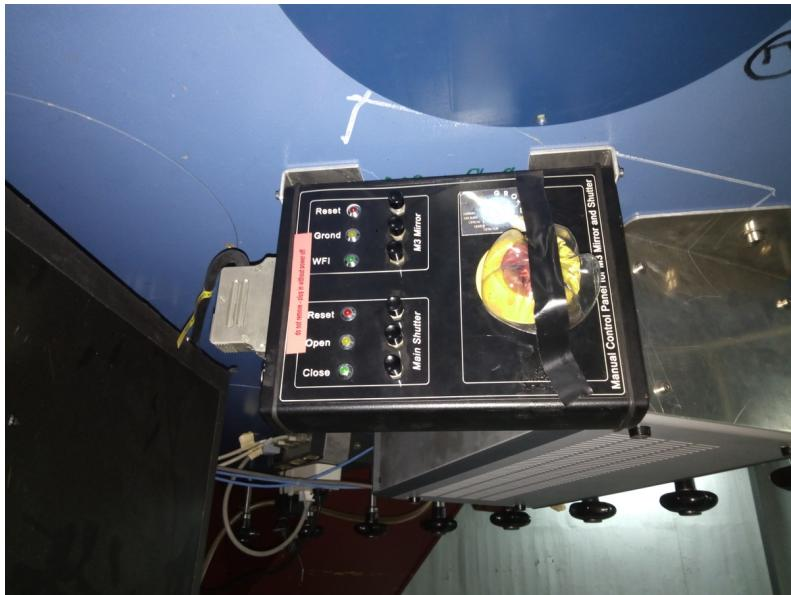

Figure 9.11: The GROND mirror and main cover control box.
2. On the box (Fig. 9.11), press the grondM3 WFI button.